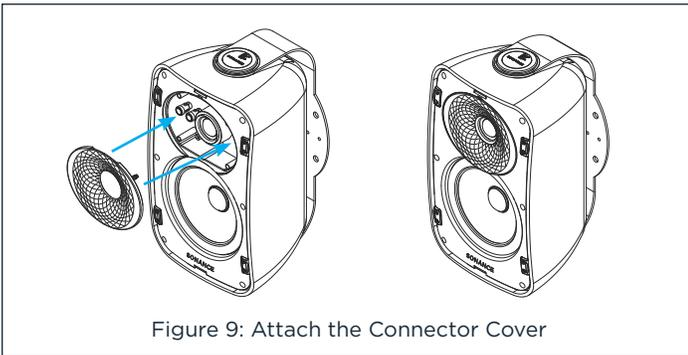

Figure 9: Attach the Connector Cover
7. Fit the removable waveguide wiring connector cover into the recess in the speaker's front panel. The cover should fit tightly, but can be removed and replaced if the speaker needs to be disconnected (see Figure 9).